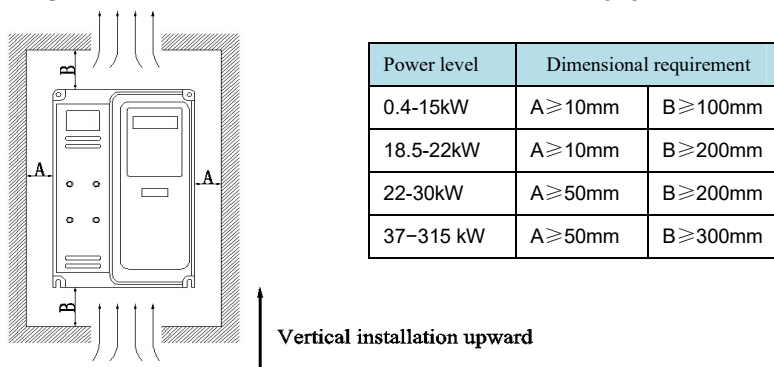

Fig. 3-1 Installation space requirements of CT3000-G Frequency Inverter of different power levels
- 1) The installation space is as shown in Fig. 3-1 and enough heat dissipation space shall be kept for the Frequency Inverter. Please consider the heat dissipation of other devices in the cabinet when the space is reserved.